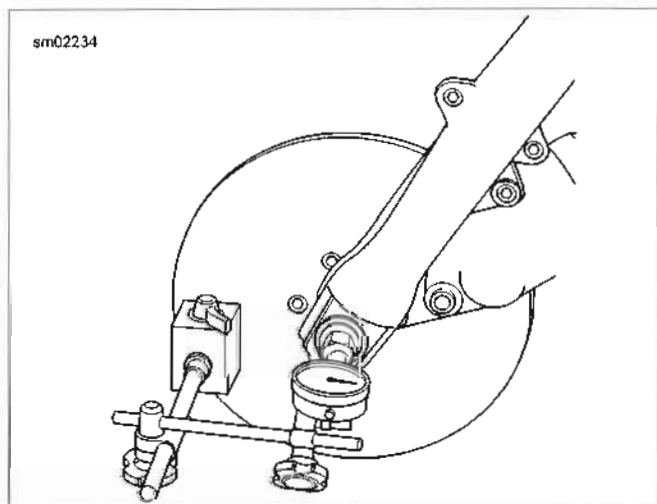

Figure 2-23. Wheel Bearing Inspection (Front Wheel Shown)
- a. See Figure 2-23. Mount a magnetic base dial indicator to the brake disc. Set the indicator contact point on the end of the axle.